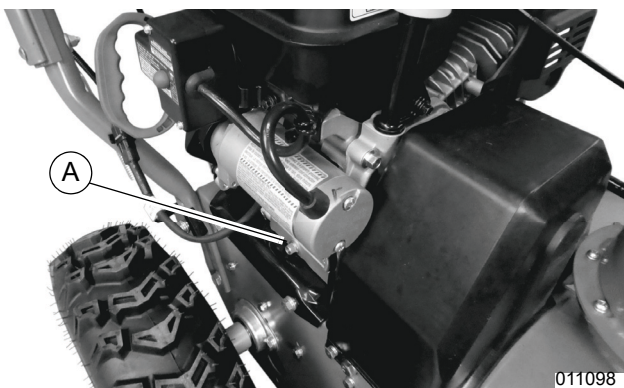

Figure 4-1. Engine Oil Fill Location (left side)
1. See Figure 4-1. Set machine on a level surface and place a waste oil container under oil drain plug (A).